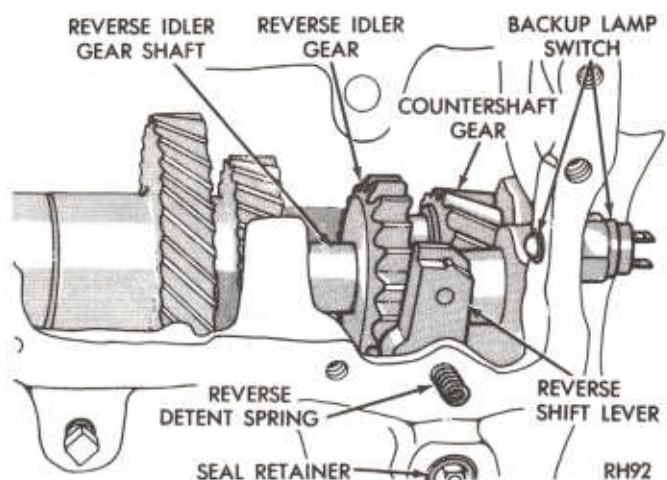

Fig. 23—Gear, Shaft, and Lever Identification
(7) Remove reverse detent spring and ball from bore in side of case (Fig. 23).